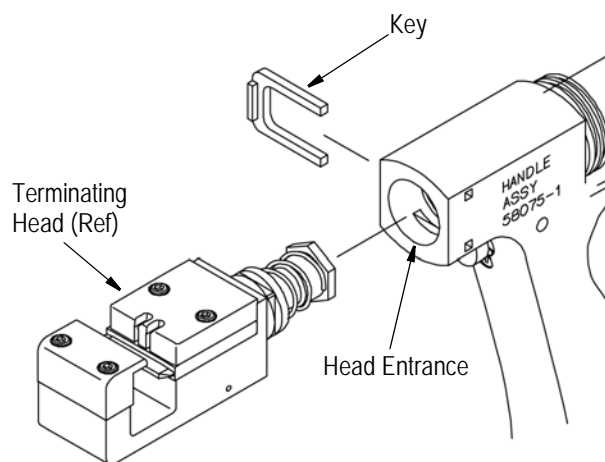

Figure 3
3. Insert the terminating head into the head entrance until the head bottoms. See Figure 3.